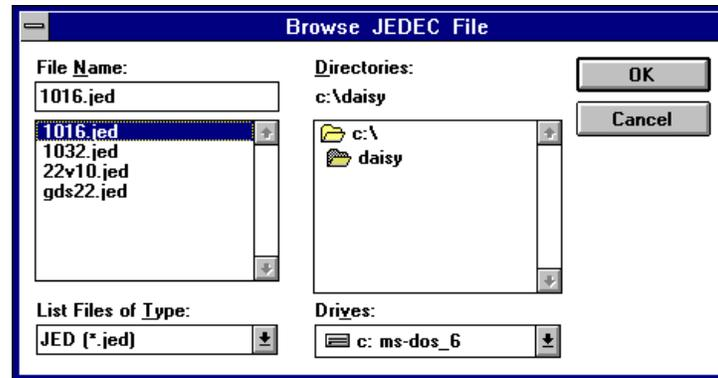

Figure 3-7. Browse JEDEC File Dialog Box
4. Enter the file name or select **Browse** to find a file (Figure 3-7). Use the scroll down arrow keys to scroll through the lists. Make sure your choices are highlighted and choose **OK**. The Browse dialog box closes and the .jed file name you chose appears in the Configuration Setup dialog box for that device.